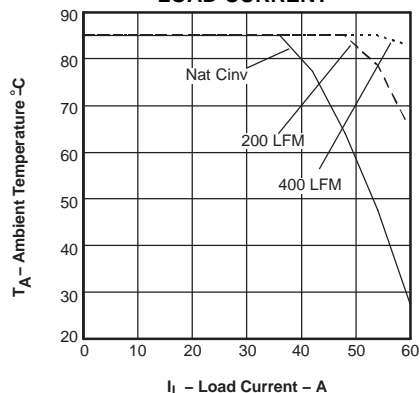

Figure 4. Safe Operating Area
- (2) SOA curves represent the conditions at which internal components are at or below the manufacturer's maximum operating temperatures. Derating limits apply to modules soldered directly to a 4 inches × 4 inches double-sided PCB with 1 oz. copper. Applies to Figure 4.